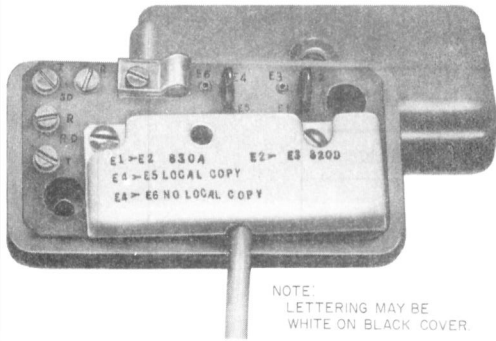

Fig. 13—DAS 830C-L1A Terminal Board
2.17 The DAS 830C-L1A (Fig. 13) provides the options shown in Table C.